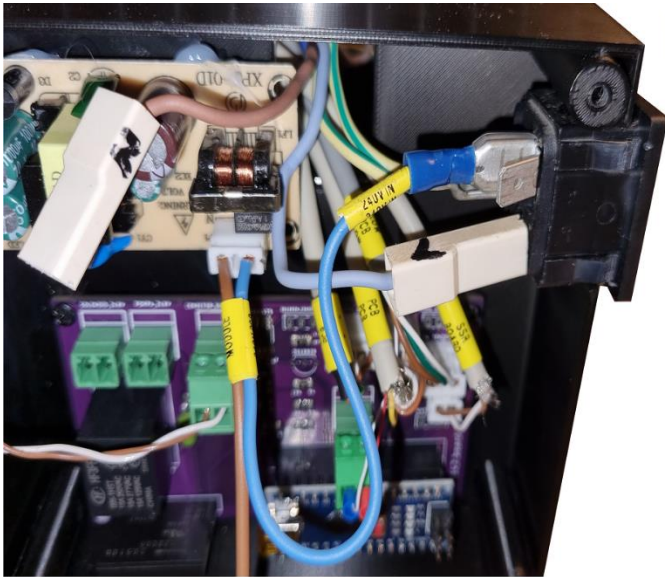
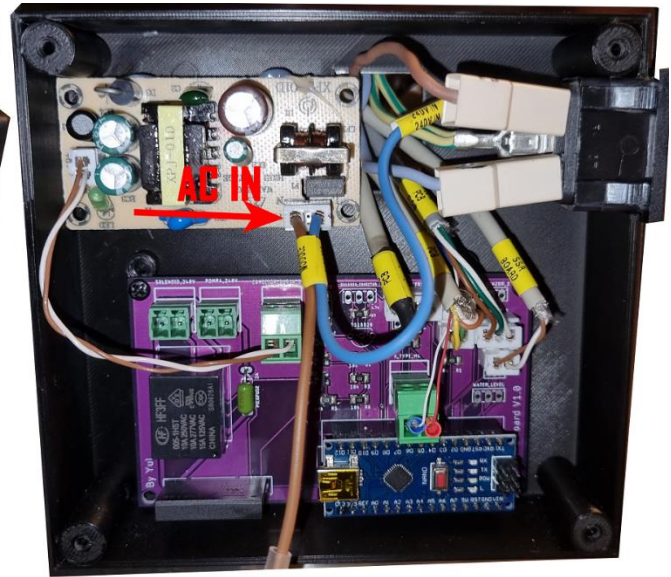

Fig. 10.2
Fig. 10.3
- Insert the 240V PCB MODULE connector in the power board and “240V IN” split connector to the original power module (fig. 10.2), then connect the remaining original brown wire in the spliced connector on original power module (fig. 10.3)